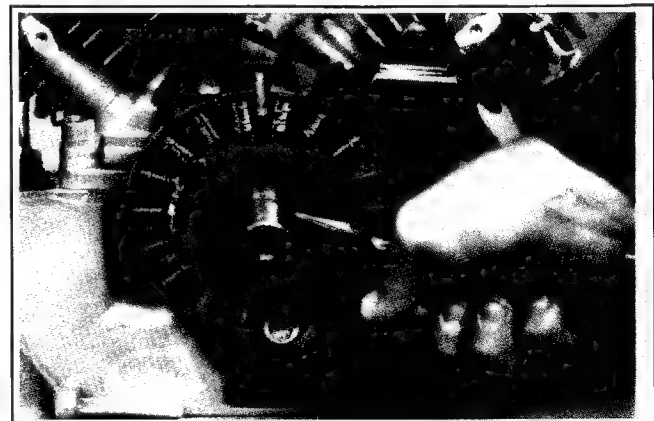

Figure 9-19. Removing Flywheel Key From Crankshaft.
3. Use needle nose pliers or side cutter to grasp and remove flywheel key. See Figure 9-19.